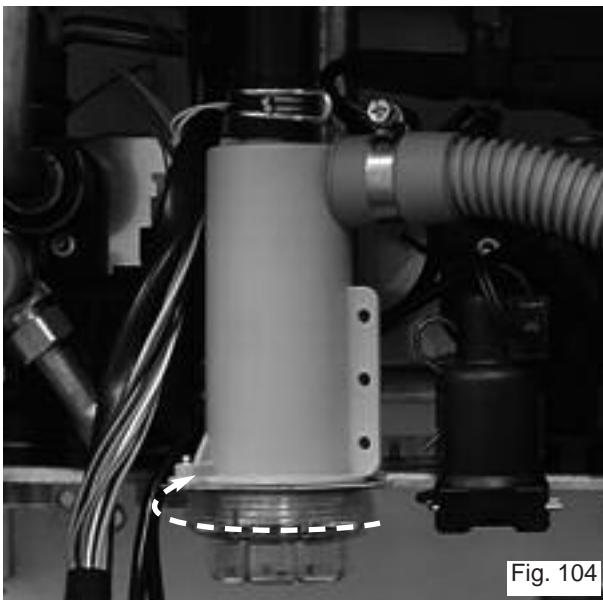

Fig. 104
1. Unscrew the cap of the condensate trap (see Fig. 104)